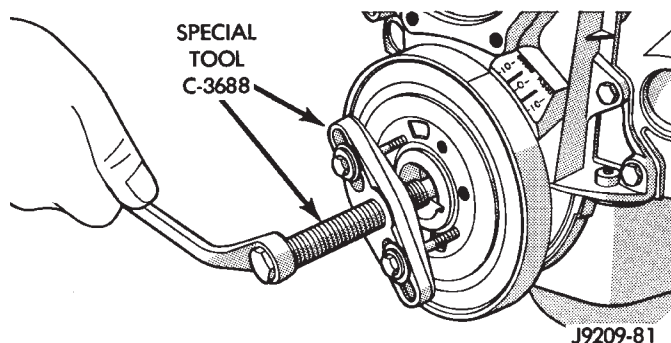

Fig. 20 Vibration Damper Assembly
- (1) Disconnect the negative cable from the battery.
- (2) Remove fan shroud retainer bolts and set shroud back over engine.
- (3) Remove the cooling system fan.
- (4) Remove the serpentine belt (refer to Group 7, Cooling System).
- (5) Remove the vibration damper pulley.
- (6) Remove vibration damper bolt and washer from end of crankshaft.
- (7) Install bar and screw from Puller Tool Set C-3688. Install 2 bolts with washers through the puller tool and into the vibration damper (Fig. 20).